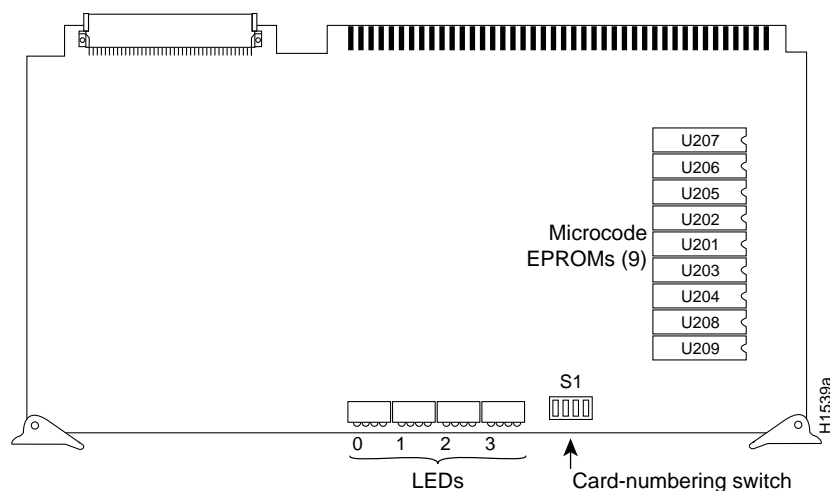

Figure 1 CSC-CCTL Card—Component Side View
The CSC-CCTL card is required for operation when ciscoBus network interface cards (CSC-FCI, CSC-HSCI, and CSC-MEC) are installed. Figure 1 shows the CSC-CCTL card viewed from the component side. If the CSC-C2FCI, CSC-C2MEC, or CSC-C2HSCI interface cards are required, the CSC-CCTL card cannot be used; the *second*-generation ciscoBus controller card (CSC-CCTL2) is required instead.
- Step 3** Check that the card number has been set to 0. Switch S1 (see Figure 1 for location) assigns the card number used by the system processor card. Table 2 describes the settings for the card number when the switch is oriented as shown in Figure 1.